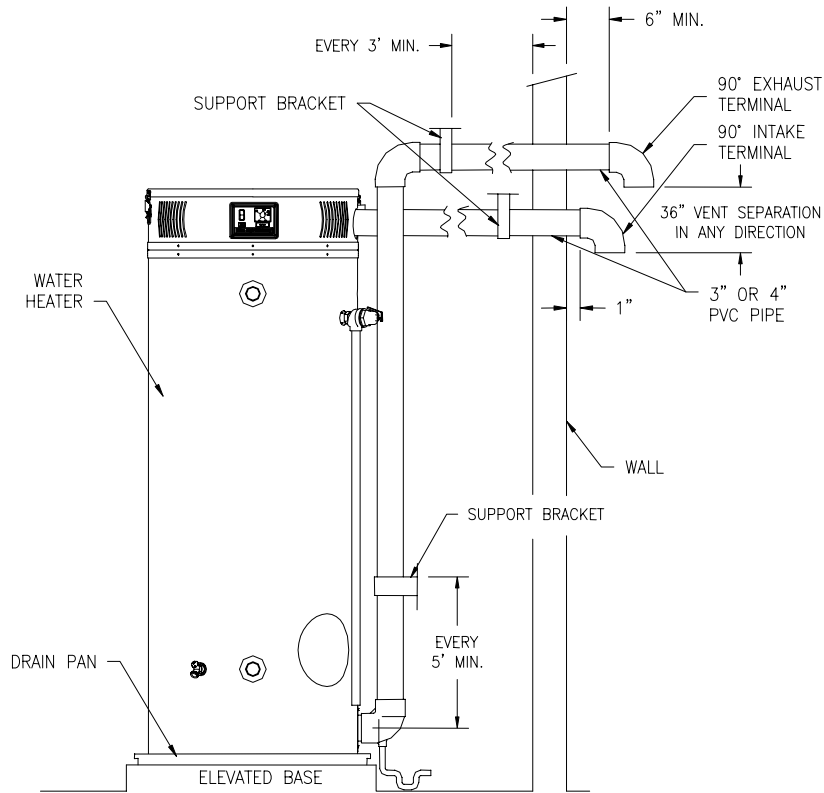

Figure 13. Typical Horizontal Direct Vent System
2. Use the proper PVC cement to secure the 90° exhaust vent and air intake terminals provided with the water heater to the plastic pipes. The distance between the back edge of the 90° exhaust vent terminal and the exterior wall (see Figure 13) must be 6 inches (12.7 cm) more for the exhaust vent terminal than the air intake terminal. Use the proper cement or sealant and assembly procedures to secure the vent connector joints between the terminal and the blower outlet. Provide support brackets for every 3 feet (.91 m) of horizontal vent.